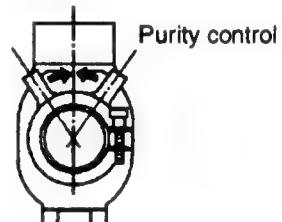

Fig. 3-2
- Position neck ass'y as shown in Fig. 3-2.